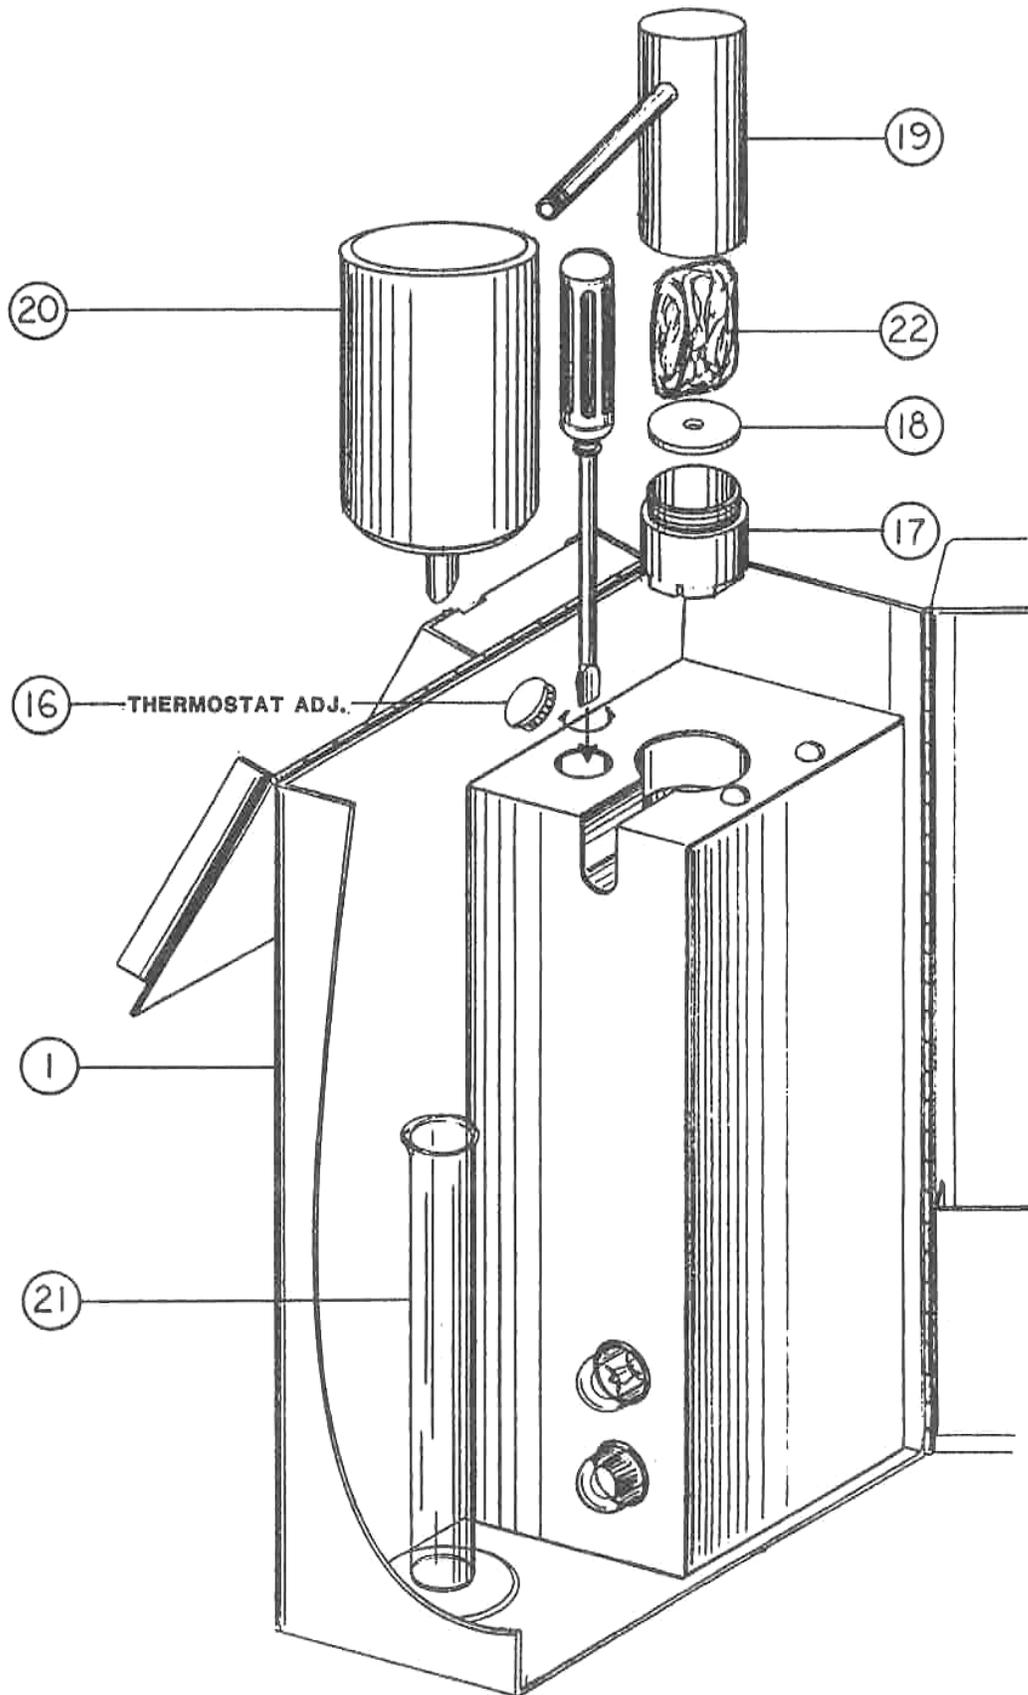
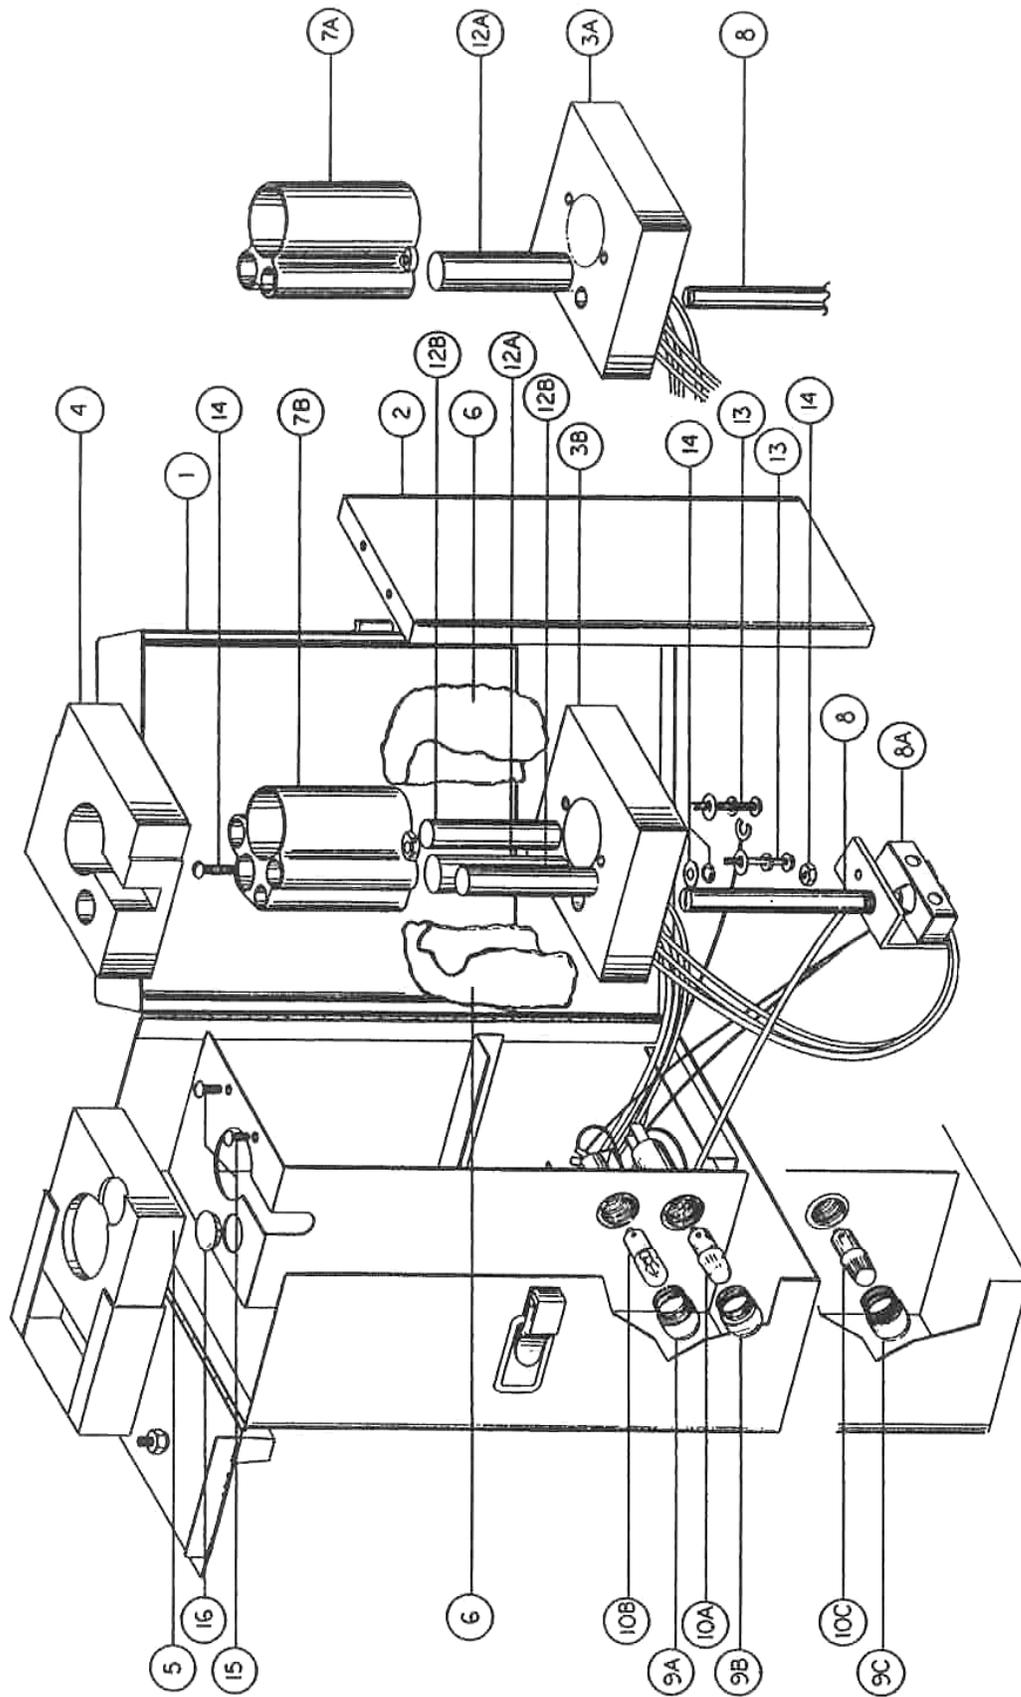

Fig. 1 - RETORT ASSEMBLY
Fig. 2 - RETORT KIT ASSEMBLY
The retort shown in Fig. 1 is composed of a 10 cm^3 drilling fluid chamber (17), measuring lid (18) upper boiling chamber (19) containing steel wool (22) and distillation tube and condenser (20). The retort, shown in Fig. 2, is heated by inserting it in a heating well (7) which also contains the cartridge heat (12) and the thermostat (8). Water and oil distillate are collected in a 10 cc graduate or special collector tube resulting in the percentages read directly ($0.1\text{ cc} = 1\%$ readable to 0.5%).
- B. Lift retort assembly, (parts 17, 18, 19, 20), out of heating compartment. (Refer to Fig. 1.) Using the spatula as a screwdriver, remove the drilling fluid chamber (17) from the retort (19).
- C. Pack the upper chamber (19) with steel wool (22). Refer to Fig. 1.
- D. Fill drilling fluid chamber (17) with drilling fluid and replace lid (18), allowing excess drilling fluid to escape. Wipe drilling fluid chamber and outside of lid clean of drilling fluid. (This is a point where error is often introduced. Be sure that no air is trapped in the chamber. An accurate charge of drilling fluid is very essential.)
- F. Screw drilling fluid chamber (17) with lid (18) into upper chamber (19) and hand tighten.
- J. Allow the retort to heat until the pilot lamp (10) goes out. Refer to Fig. 2. This will indicate that the retort has reached the temperature for distillation to be completed. The thermostat will automatically turn off the power to the retort heater at the correct temperature regardless of the voltage available. The distillation should be complete in approximately 20 minutes if rated 115 or 230 voltage is available. A lower voltage may take 25-30 minutes, while at a higher voltage the distillation may be completed in 15 minutes. Distillation using 12 volt power will take longer, 35 to 45 minutes. After completion of test, disconnect power cord.
- A. Use the spatula and scrape the dried drilling fluid from the chamber (17) and lid (18) to assure correct drilling fluid measurement. Refer to Fig. 1.
- B. Remove steel wool using the corkscrew, and clean chamber with spatula. Replace any steel wool caked with drilling fluid with new steel wool (22).
- C. Clean the retort drain tube (19) and condenser (20) with a pipe cleaner.
- E. The thermostat should allow the retort to reach a dull red heat (approx. 930°F)(498°C) \pm 70°F (21°C). If adjustment must be made on thermostat, remove plug (16) in top of heating assembly and turn thermostat shaft clockwise with screwdriver to lower temperature or counterclockwise to raise temperature. Adjustments are made most easily by starting below the cutoff point and raising the temperature in small steps (approximately 1/8 turn) until the proper setting is reached. The retort setting should not be higher than the 970°F (521°C).
Failure of the retort to properly heat is usually caused by failure of the cartridge heater or the thermostat. Replacement procedure for either is covered below: Refer to Fig. 2. Figures 3 and 4 illustrate the electrical wiring.